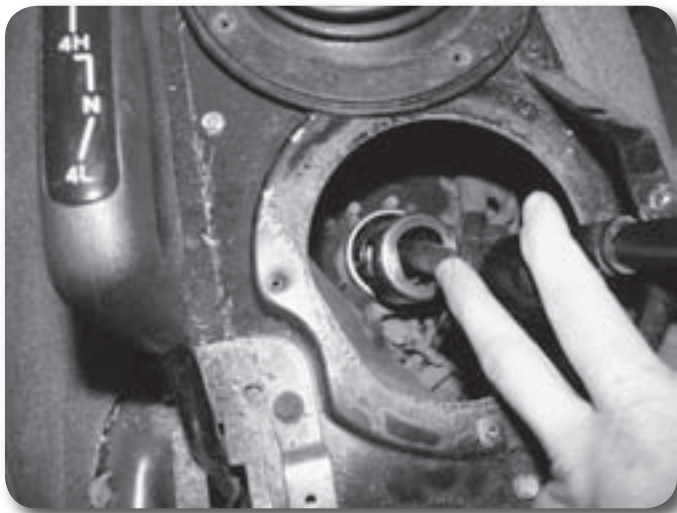

Figure 7B
20. Make an alignment mark along the shift lever just below the first bend. Make a second “cut” mark perpendicular to the first mark just below the bend (Figure 7B). Note: Make sure the alignment mark is visible on both sides of the cut.